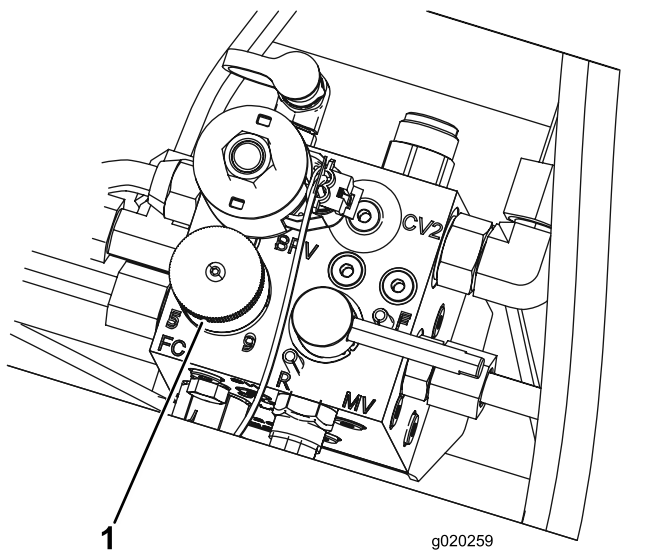

Figure 37
4. To set the reel speed, rotate the knob (Figure 37) until the indicator arrow is in line with the number designating the desired setting.